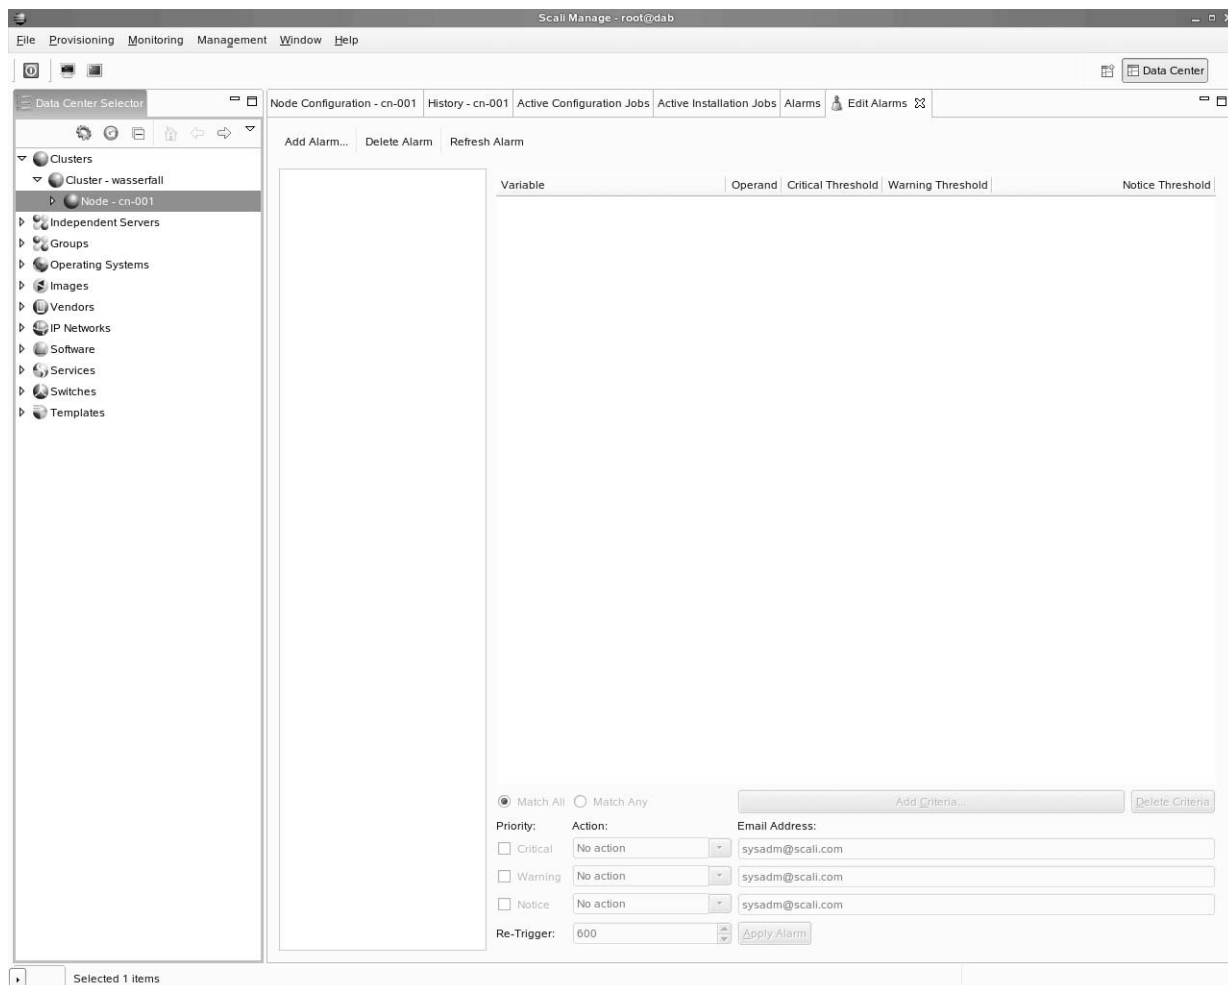

Figure 2-14 Node Selection for Alarm Function Example
3. Select a node (or list of nodes) for which you want to define the alarm, refer to Figure 2-14.